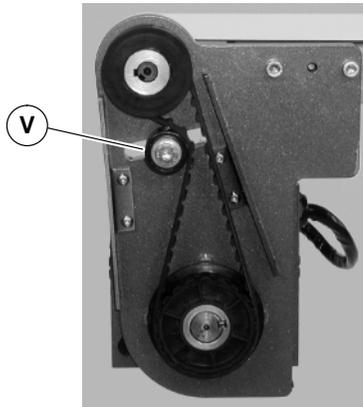

Figure 10
2. Loosen tensioner (V of Figure 10).
5. Loosen tensioner (V of Figure 10).